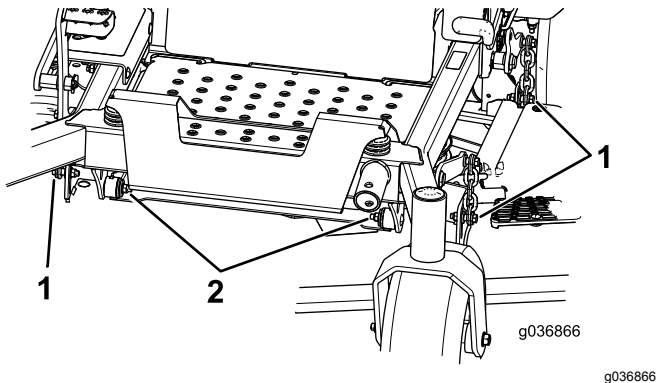

Figure 87
7. Remove and retain the bolts and nuts on both sides of the machine (Figure 87).